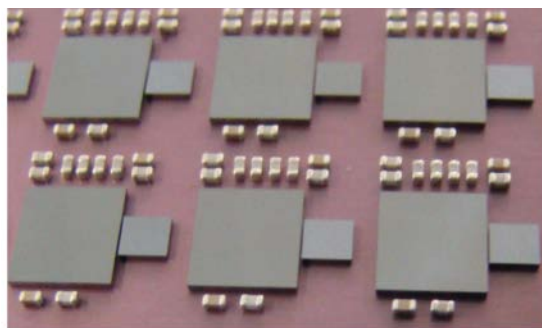

Figure 2 - WLSiP configuration with 2 active dies and 10 discrete passives placed active side face-down on recon wafer carrier before wafer molding.
- multi-die and discrete passives placement with smaller distances in between (Fig. 2 and Fig. 3).